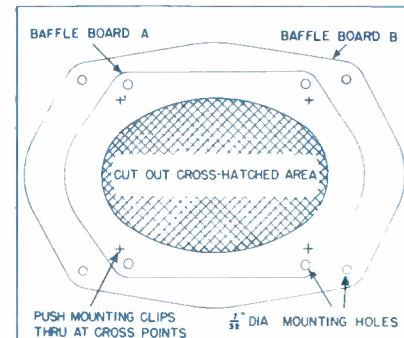

Figure 5. Baffle Board
is approximately 6" x 9" cut out baffle board "B". Refer to Fig. 5.
- (G) With the four mounting clips, secure the speaker to the baffle board as indicated in Figures 5 and 6.
- (H) Install baffle board, with speaker mounted, in the position provided in grill or dash. Connect speaker leads to the speaker lead connectors after the receiver is permanently installed.